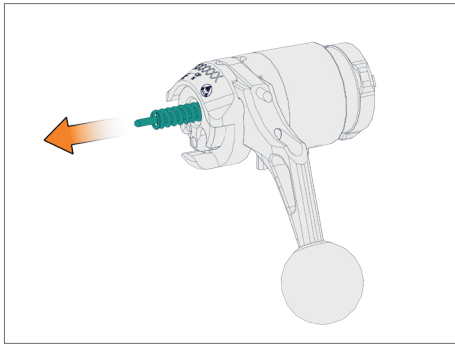

Fig. 11
- Remove the signal pin and the firing pin spring (Fig. 11).